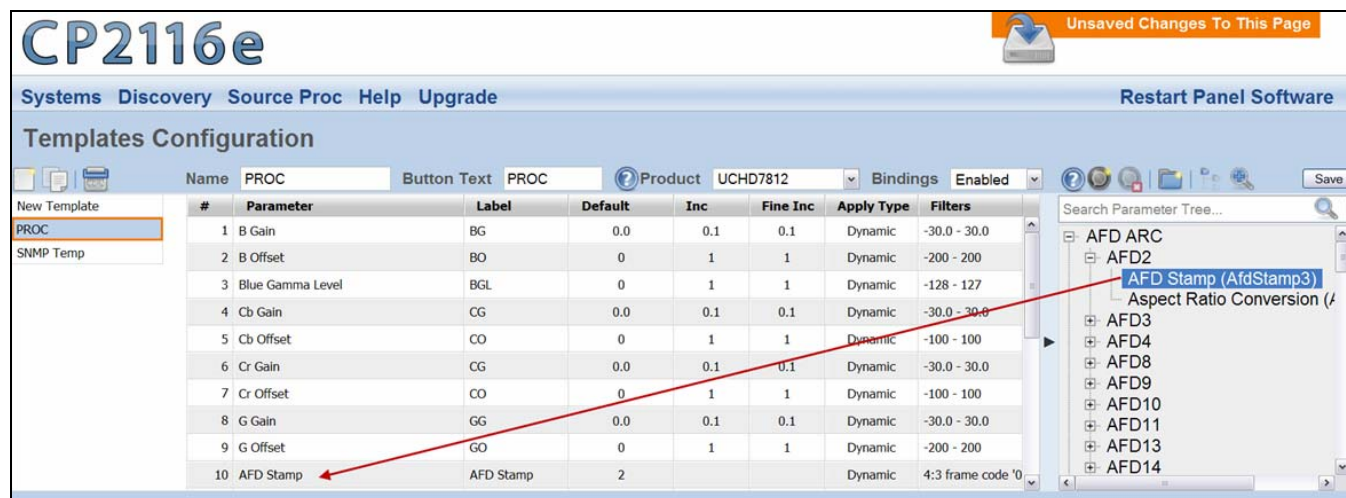

Figure 4-10: Assigning a Parameter
6. Drag and drop a card parameter from the parameter tree to the template parameter list in the middle of the screen. Please refer to Figure 4-10.